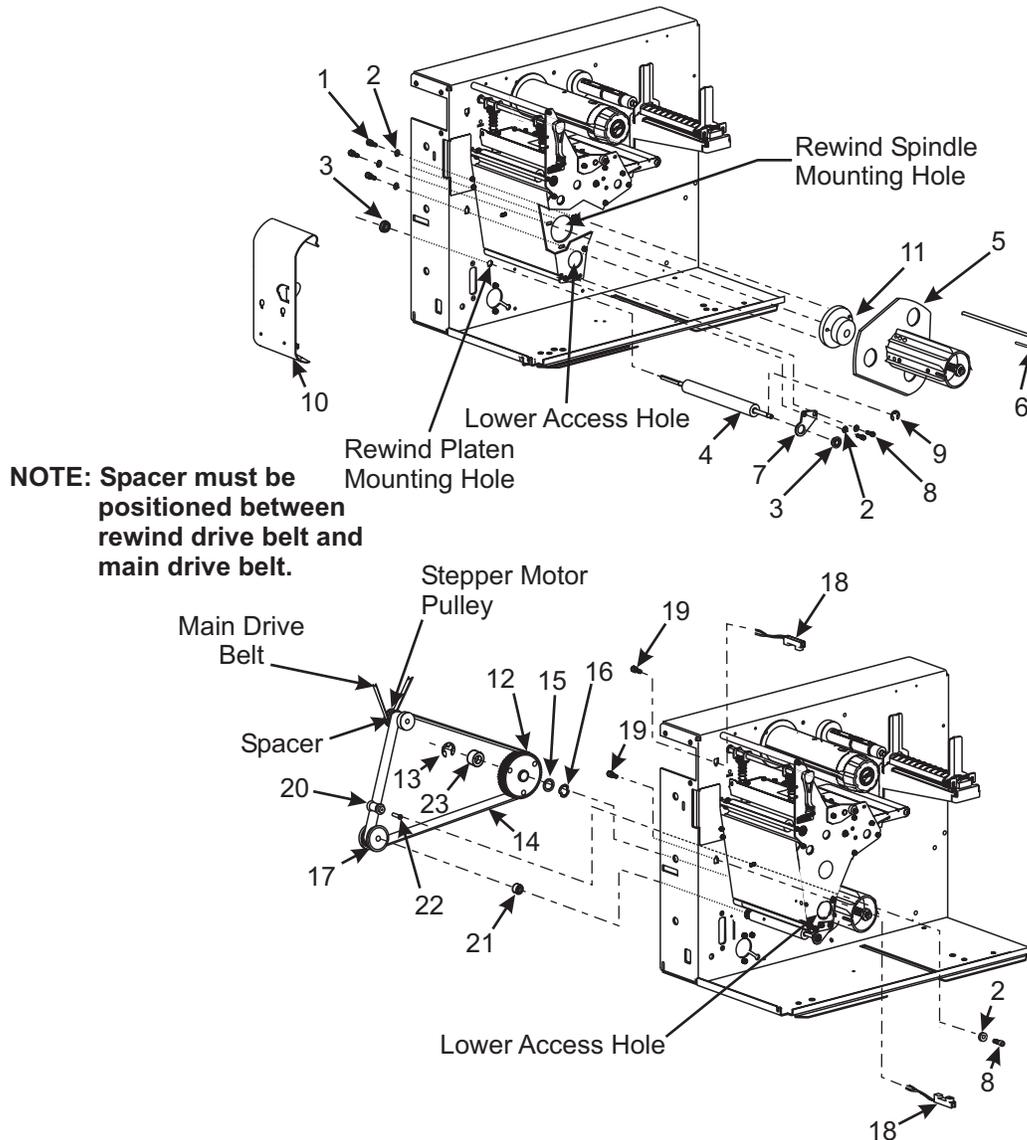
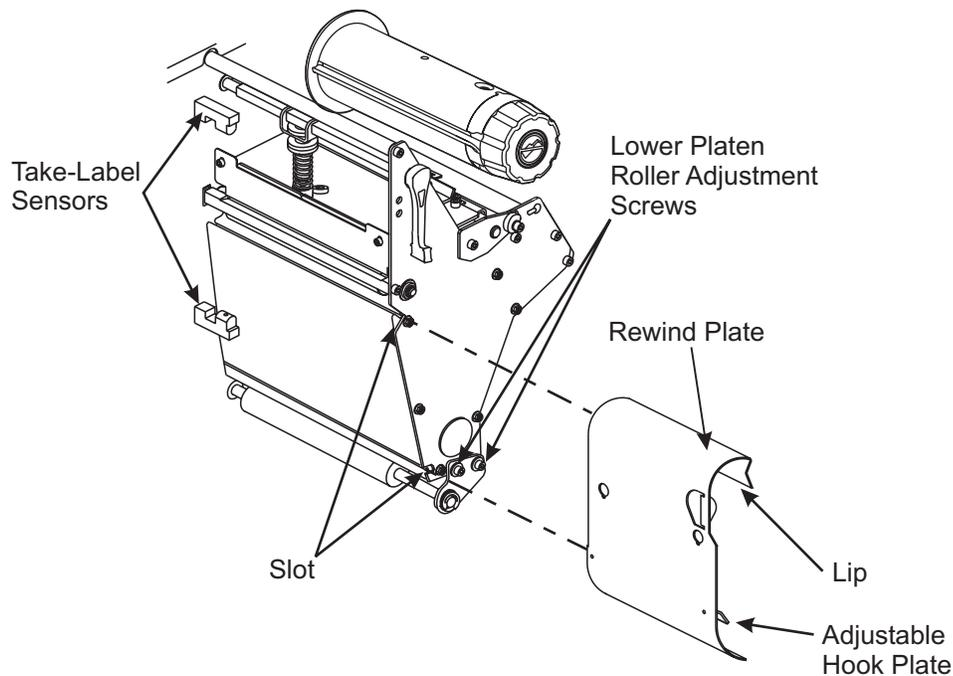

Figure 6-9. Rewind Assembly Installation
Figure 6-10. Take-Label Sensor Location
1. RRP No. 1 on page 4-13. Turn printer power Off (O) and disconnect the AC power cord. Remove any communication cables.
5. Refer to Figure 6-9. Remove and retain the plastic plug in the lower access hole near the bottom of the print mechanism side plate.
Table 6-1 lists the parts found in the Media Rewind Option Kits. The last four columns indicate which parts are used in the particular kit for the different printers. Use Table 6-1 and Figure 6-9 to conduct an inventory of the parts before installing the kit. The parts received are dependent on the kit ordered for a particular printer. Labels on the parts packaged in the kits may not show the "M" reorder designation shown on some of the part numbers.
1. Refer to Figure. 6-9. Place a flat washer (#2) onto one of the screws (#8). Use the Allen wrench provided in the kit to place this mounting screw through the lower access hole in the side plate and through the idler pulley mounting slot in the printer main frame. On the electronics side of the printer main frame, attach the idler shaft (#22) to the mounting screw.
20. Position the rewind plate as shown in Figure 6-10 with the attached hook plate pointing down.
Refer to Figure. 6-9 and Figure. 6-10.